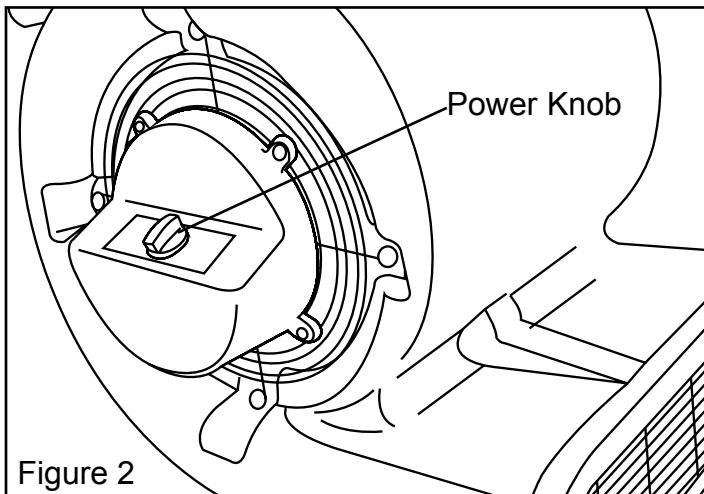

Figure 2
4. Turn the control knob to the desired speed: 1, 2, 3. (Figure 2)